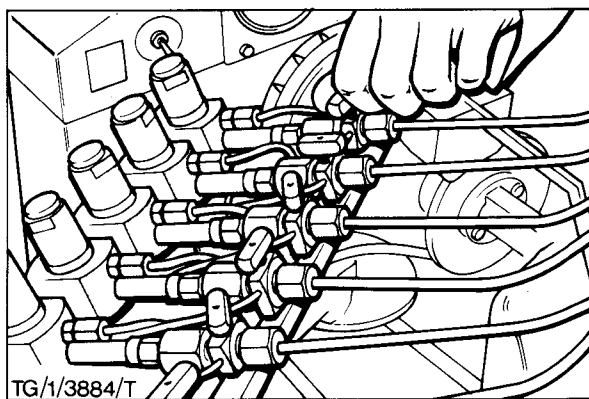

Fig. 14 - Opening the Bleed Valve
4. Open the high pressure phasing bleed valve on number 1 master injector (Fig. 14). Turn on the test oil supply and increase the pressure until a steady flow runs from the spill pipe.